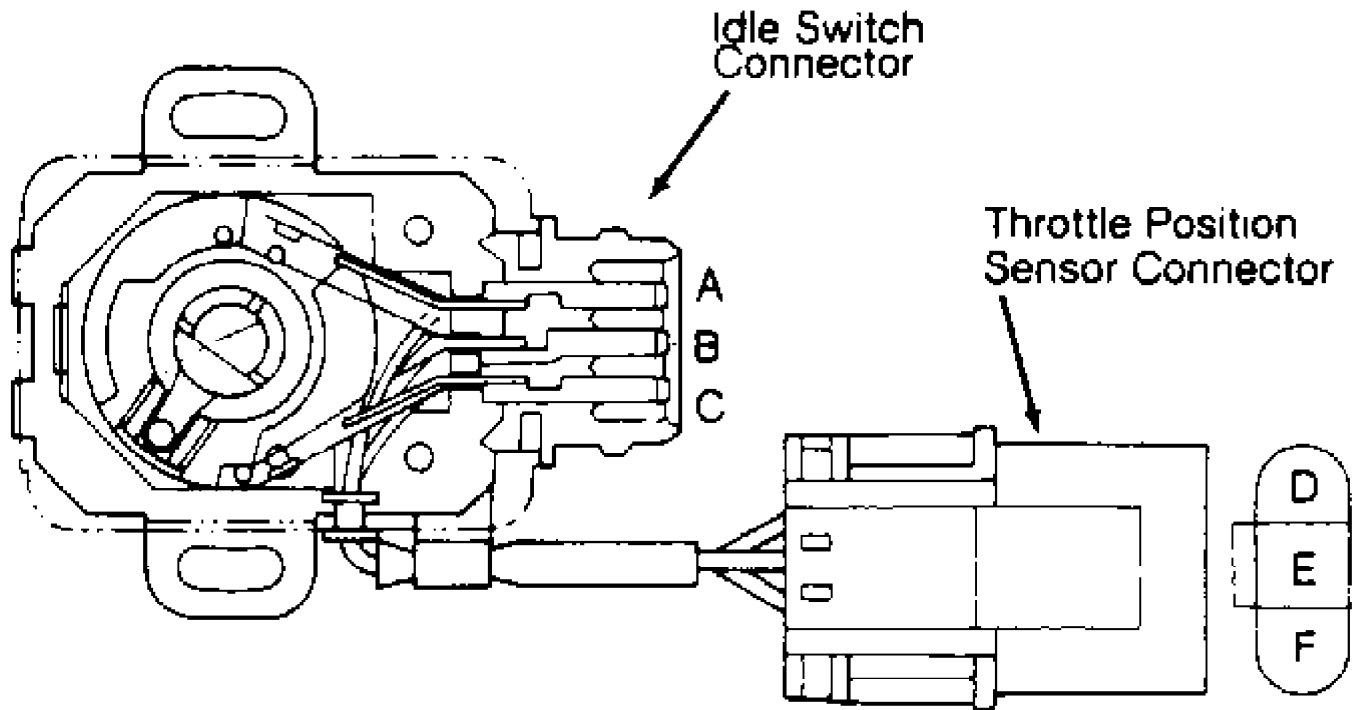

Fig. 4: Identifying Idle Switch & TPS
1) Disconnect throttle position sensor. Connect ohmmeter between terminals "E" and "F". See Fig. 4. Ensure resistance varies as throttle is opened and closed. If resistance does not vary, replace throttle position sensor.